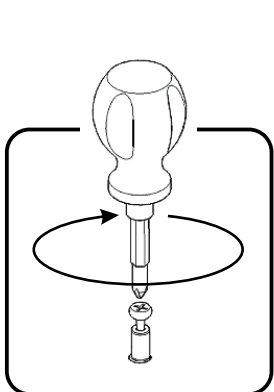

Figure 1
Insert Cam Lock Screws into pre-drilled holes in Top (A), Side Frame (B), Middle Panel (D), Supports (G), (H) and Posts (E), (F), then tighten. (See Figure 1)